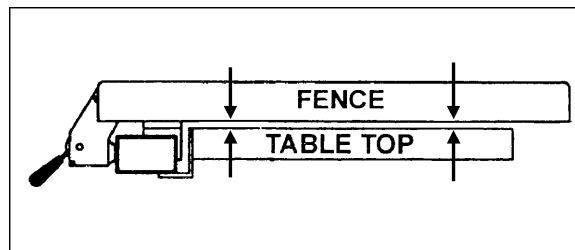

Figure 11
4. View the fence from the left or right side of the saw. There should be a small space between the table surface and the fence bottom, to prevent the fence from dragging on the saw table. This space should be equal along the entire length of the fence, as shown in Figure 11.